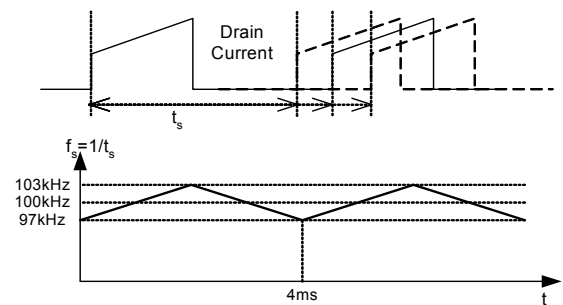

Figure 10. Frequency Modulation Waveform
**7. Frequency Modulation :** Modulating the switching frequency of a switched power supply can reduce EMI. Frequency modulation can reduce EMI by spreading the energy over a wider frequency range than the bandwidth measured by the EMI test equipment. The amount of EMI reduction is directly related to the depth of the reference frequency. As can be seen in Figure 10, the frequency changes from 97KHz to 103KHz in 4ms for the FSDH321 (48.5KHz to 51.5KHz for FSDL321). Frequency modulation allows the use of a cost effective inductor instead of an AC input mode choke to satisfy the requirements of world wide EMI limits.